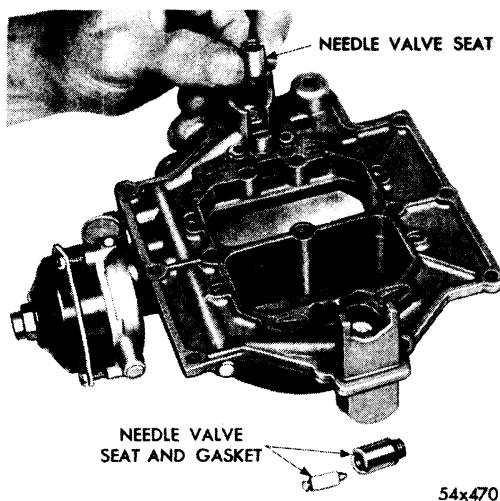

Fig. 12—Removing or Installing Needle Valve, Seat and Gasket
- (5) Remove the two needle valves from their respective seats. Remove the primary and secondary seats and gaskets, as shown in Figure 12. Be sure each needle valve is returned to its original seat if it is to be used again at assembly.